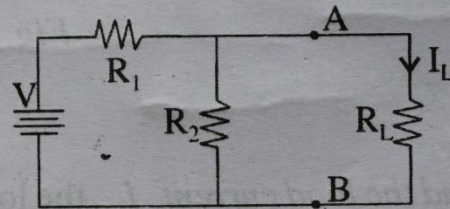

Fig. 30
Consider a network consisting of a voltage source (V) and resistance R_1 and R_2 , together with a load resistance R_L as in figure 30. With R_L removed, we get a two terminal net work with terminals A and B. Norton theorem enables us to get an equivalent circuit for this.